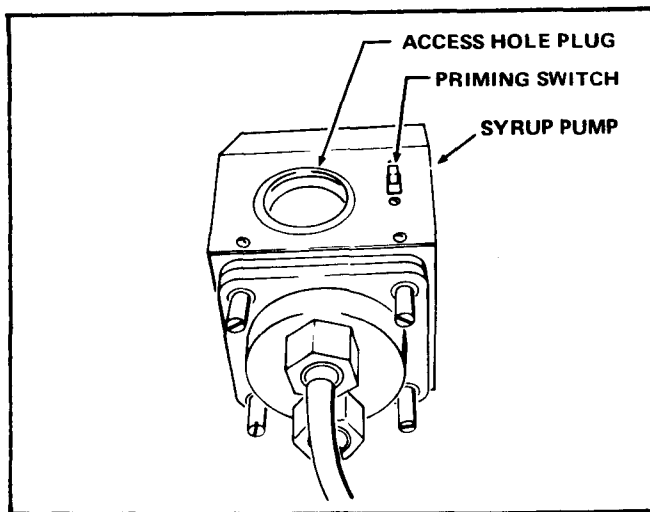

FIGURE 13
- b. Move a Syrup Pump Priming Switch to the ON position. See Figure 13. Air present in the syrup line will be forced out at the Syrup Dispensing Spigot.